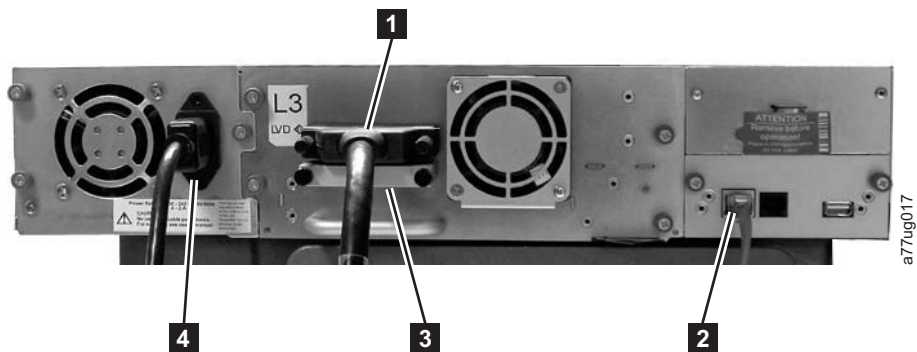
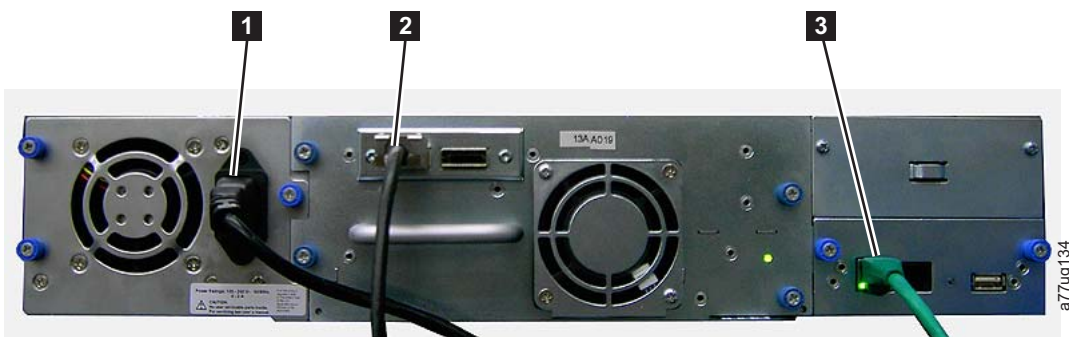

Figure 4-19. Attaching a SCSI host interface cable to the 2U library
Figure 4-21. Attaching a SAS interface cable to the 2U library
2. For a SCSI library, attach one end of the host interface cable to one of the connectors on the back panel of the library (see **1** in Figure 4-19 on page 4-17). For a Fibre Channel library, attach one end of the host interface cable to the connector on the back panel of the library (see **4** in Figure 4-20 on page 4-17). For a Serial Attached SCSI (SAS) connected library, attach the host end of the SAS cable to the SAS HBA (see **2** in Figure 4-21 on page 4-17). Full high drives will have dual SAS connectors. Half high drives will have one SAS
- For a SCSI library, connect the host interface cable to the connector on the SCSI host bus adapter or to the connector on the previous device on the SCSI bus. Attach the terminator (3 in Figure 4-19) to the remaining SCSI connector on the back panel of the library, if the library is the last or only
**Note:** The host bus adapter should be LVD SCSI. A single-ended (SE) SCSI host bus adapter will work, but will severely degrade performance, and limit cable length. If there are any SE devices on the same SCSI bus, the entire SCSI bus will negotiate down to SE speed and severely degrade performance.
4. Plug the network ethernet cable ( **2** in Figure 4-19 on page 4-17, **5** in Figure 4-20 on page 4-17, or **3** in Figure 4-21 on page 4-17) into the ethernet port on the back panel of the library. If the ethernet connection is directly attached to a server or laptop, a crossover ethernet cable may be required.